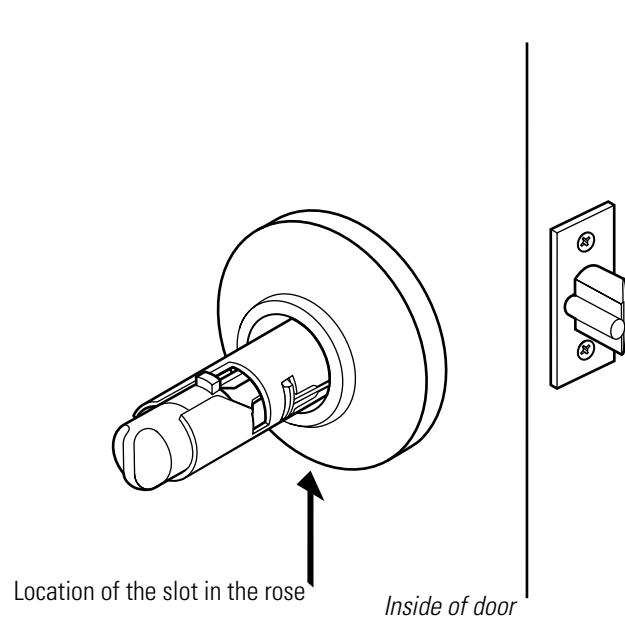

Figure 3.4 Removing the inside rose with the screwdriver
2. Insert a flat blade screwdriver in the slot between the rose and liner, as shown in Figure 3.4. Pry the rose until it pops off the liner.